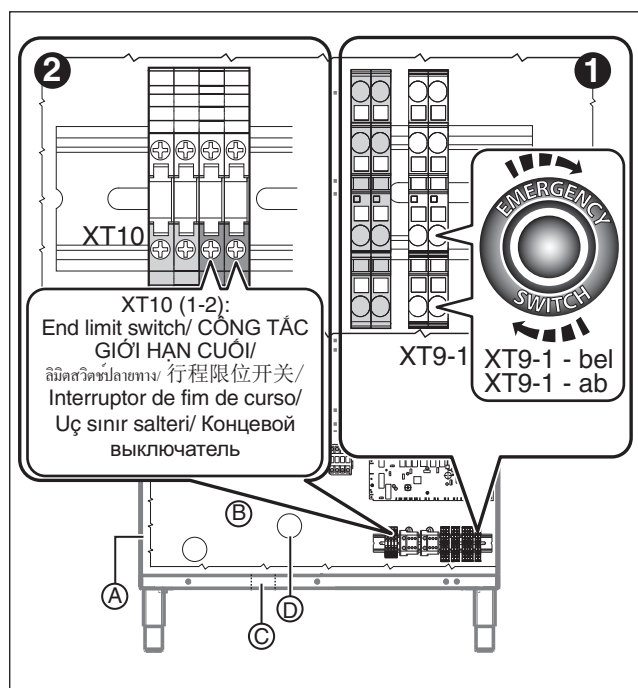

Figure 17 Electrical connection of rack handling systems
1. remove the front panel "A" of the machine (Figure 17);
2. remove the cover of electrical panel "B" (Figure 17);
3. pass the cables for connection to the emergency switch and end limit switch, through the hole "C" (Figure 17) present near the foot of the machine;
4. enter the electrical panel "B" (Figure 17) through the special hole "D" (Figure 17) located in it;
5. connect the emergency stop (emergency switch) between points XT9-1 - bel and XT9-1 - ab of the XT9-1 terminal block (point 1 - Figure 17);
6. connect the table limit switches (End limit switch) between points 1 and 2 of the terminal block XT10 (point 2 - Figure 17);